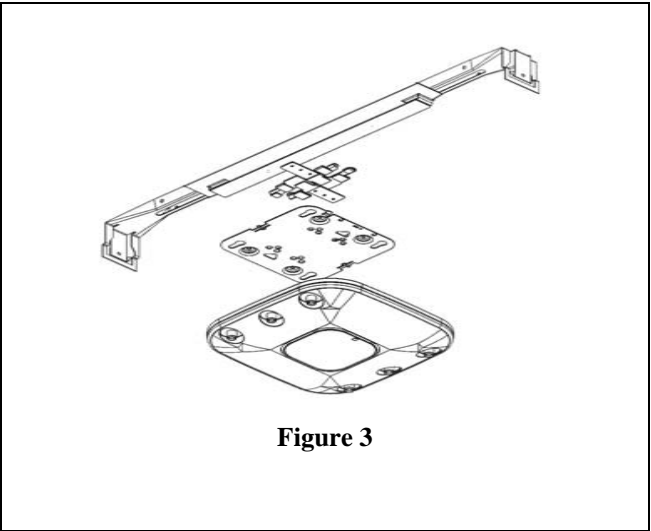

Figure 3
Step 3 – Use the manufacturers T-Bar mount clip to attach the access point to the T-Bar Section on the mounting plate. An additional mounting plate provided by the manufacturer of the access point may be needed to attach the access point (Figure 3). *Data cable(s) may need to be plugged in to the access point prior to attaching to the mount. Cisco access points use Cisco AIR-AP-BRACKET-2 for 2600/3600 series access points and AIR-AP-BRACKET-1 for 1140/3500 series.*